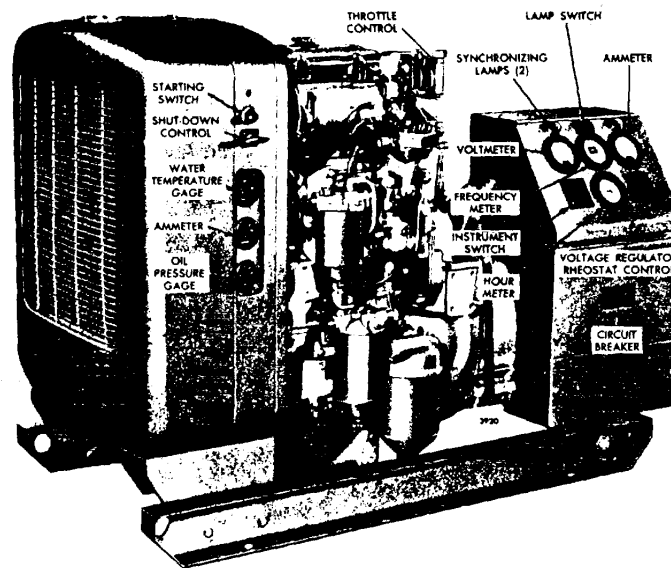

Fig. 1. Location of Controls on Power Generator Set
These instructions cover the fundamental procedures for operating an alternating current power generator set (Fig. 1). The operator should read these instructions before attempting to operate the generator set.
4. Refer to Fig. 1 and place the circuit breaker in the off position.
Press the throttle button and turn the throttle control (Fig. 1) counterclockwise to a position midway between **run** and **stop**. Then press the starting switch firmly.
2. Check the voltmeter (Fig. 1); the voltage must be the same as the line voltage. Adjust the voltage regulator rheostat control if the voltages are not the same.